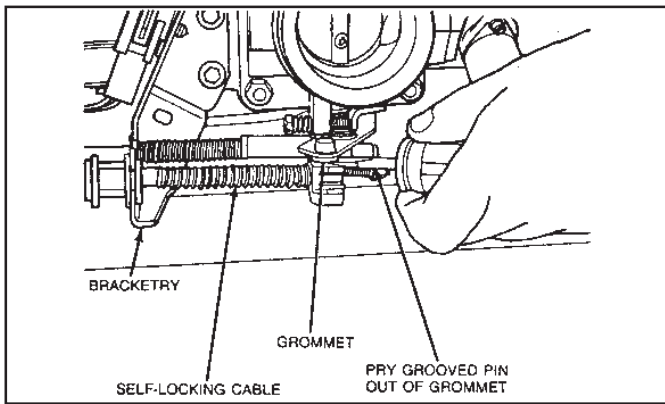

Figure 20
6.2 Using a wide-blade screwdriver, pry grooved pin on cable assembly out of grommet on throttle body lever. **(See Fig. 20.)**